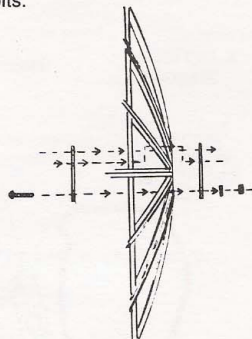

Figure 4.
**STEP 4** You may stand the assembled reflector on edge for easy access to the center. Attach the center hub plates to the antenna by inserting four 5/16"x2" carriage bolts through the front plate, between the ribs, and through the rear plate on the back side of the reflector. Be sure to use 5/16" washers on the rear hub plate. See Figure 4. **SECURELY TIGHTEN THE CARRIAGE BOLTS WITH A WRENCH.**